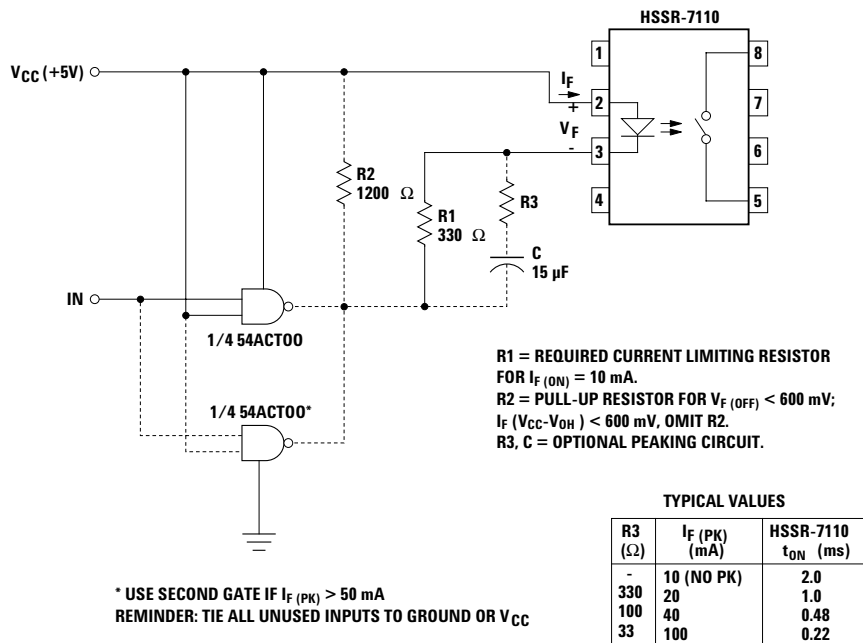

Figure 1. Recommended Input Circuit.
- For a faster turn-on time, the optional peaking circuit shown in Figure 1 may be implemented.
Input Circuit: The drive circuit of the electro-mechanical relay coil needs to be modified so that the average forward current driving the LED of the HSSR-7110 does not exceed 20 mA. A nominal forward drive current of 10 mA is recommended. A recommended drive circuit with 5 volt V_{CC} and CMOS logic gates is shown in Figure 1. If higher V_{CC} voltages are used, adjust the current limiting resistor to a nominal LED forward current of 10 mA. One important consideration to note is that when the LED is turned off, no more than 0.6 volt forward bias should be applied across the LED. Even a few microamps of current may be sufficient to turn on the HSSR-7110, although it may take a considerable time. The drive circuit should maintain at least 5 mA of LED current during the ON condition. If the LED forward current is less than the 5 mA level, it will cause the HSSR-7110 to turn on with a longer delay. In addition, the power dissipation in the output power MOSFETs increases, which, in turn, may violate the power dissipation guidelines and affect the reliability of the device.